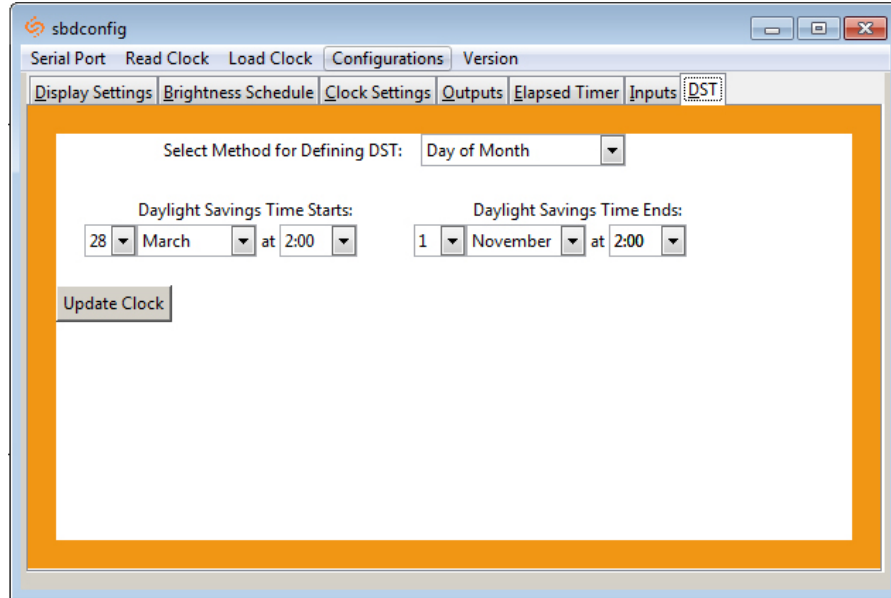

Fig. 4
- **Day of Month:** When this option is selected, Daylight Saving Time can be chosen based on what date and time it begins and ends. For example, Daylight Saving Time can begin on March 28 at 2AM and end on November 1st at 2AM. (Fig. 4.)